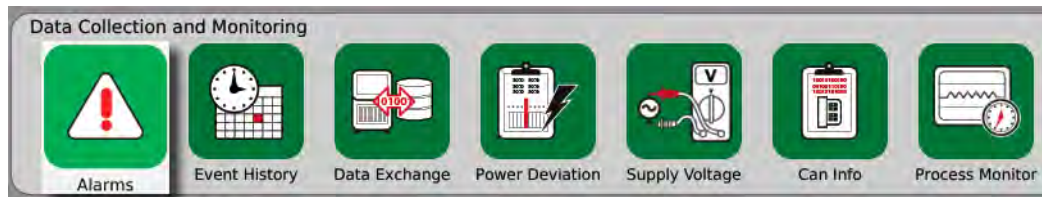

Figure 10-2 Alarms Button
- Alarms button in the Data Collection and Monitoring group of the Neo5 Home screen (refer to Figure 10-2).